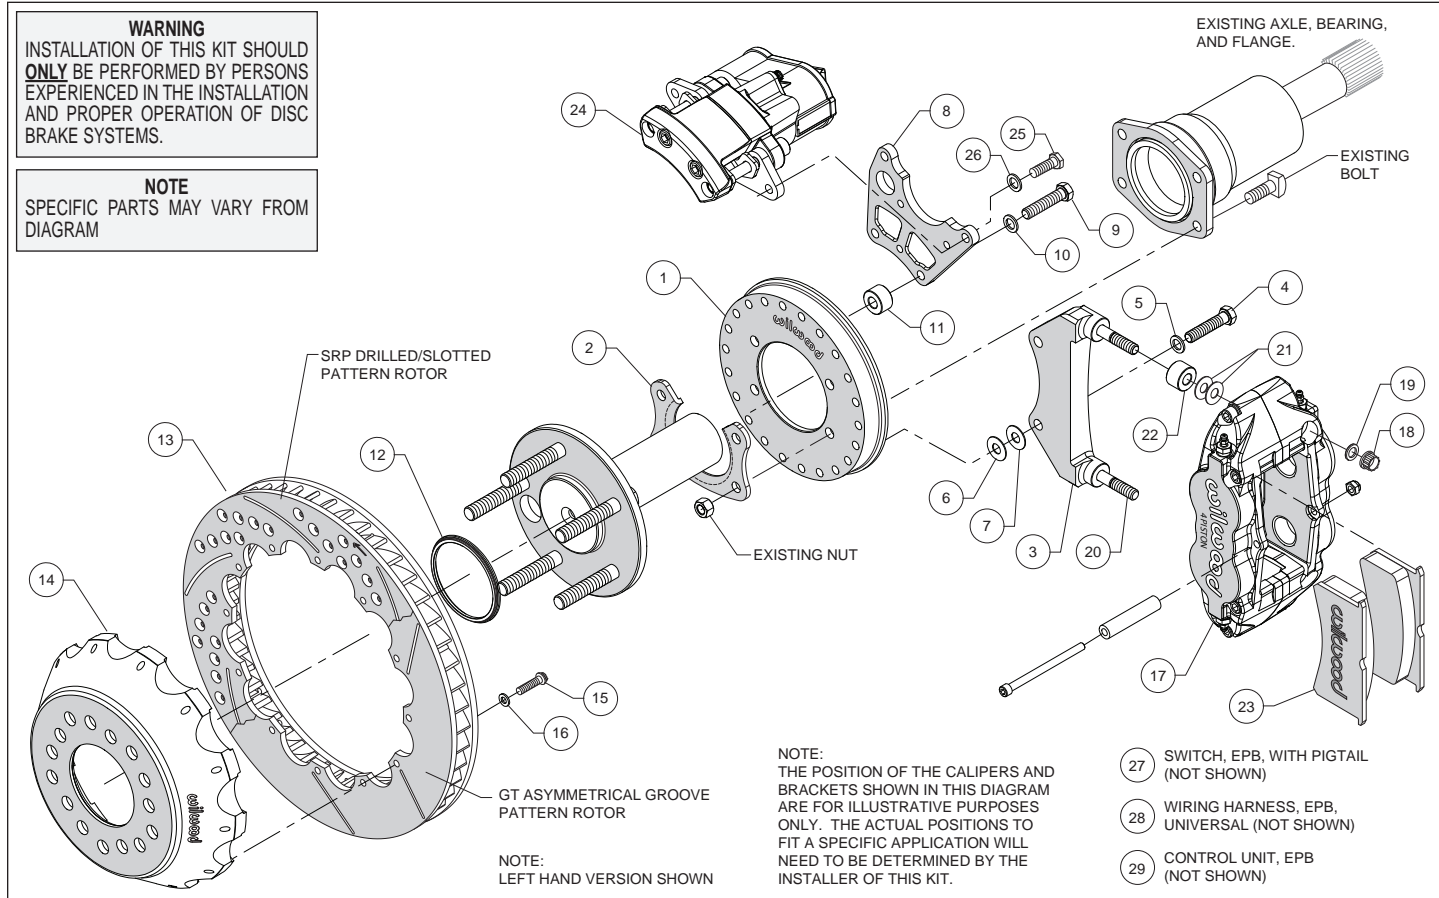
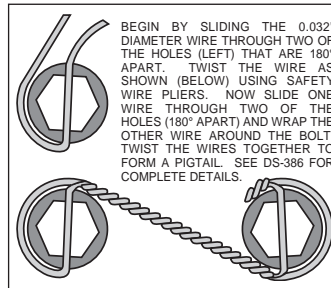

Figure 1. Typical Installation Configuration
Figure 5. Safety Wire Diagram
(numbers in parenthesis refer to the parts list, and Figure 1 on the preceding pages):
- Orient the backing plate (1) as shown in Figure 1 and Photo 1, and slide it onto the axle housing flange. Ensure the backing plate fits flush against the axle housing flange. Reinstall the axle into the axle housing.
- Install the bearing retainer (2) with the opening pointing upward and the lip facing inward (toward the bearing), as shown in Figures 1 and 4, and Photo 2. Secure retainer and backing plate to the axle housing flange using the Original Equipment Manufacturer (OEM) bolts and nuts, Figure 1 and Photo 3. Apply red *Loctite*® 271 to the OEM bolt threads and torque to OEM specifications.
- Start by determining the best location for the service caliper (17). This caliper is usually mounted in the 3:00 or 9:00 o'clock position, but may be rotated up or down approximately 45 degrees and still allow for proper bleeding, Photo 4. Orient the service caliper bracket (3) as shown in Figure 1 and Photo 5, and install to the backing plate (1) in the desired location using bolts (4) and washers (5). Temporarily tighten bolts. Next, mount the service caliper onto the bracket. Lubricate the caliper mounting studs (20) with lightweight oil. Mount the service caliper using lock nuts (18) and washers (19), Figure 1. Temporarily tighten the lock nuts. Check that the caliper (including inlet fitting and hose) has sufficient clearance to all surrounding components through the full suspension travel. Relocate the caliper/bracket on the backing plate as needed to ensure proper clearance is achieved.
- Determine the best location for the EPB caliper (24). **NOTE:** *The EPB caliper motor extends farther inboard than the service caliper and therefore needs additional consideration when determining a mounting location with sufficient clearance.* In the example application shown in Photo 6, the EPB caliper has sufficient inboard clearance to the leaf spring. However, if the EPB caliper were mounted closer to the 12:00 o'clock position, the inner body of the vehicle would hit the caliper during full compression of the suspension.
•Orient the EPB caliper bracket (8) as shown in Figure 1 and Photo 7, and install to the backing plate (1) in the desired location using bolts (9), washers (10), and spacers (11). Temporarily tighten bolts. **NOTE:** The EPB bracket is reversible. In one direction the bracket will position the EPB caliper closer to the service caliper, and vice versa if reversing the bracket. Next, mount the EPB caliper (24) to the bracket using bolts (25) and washers (26). Temporarily tighten bolts. **NOTE:** EPB calipers are Left and Right handed, however they can be used on either side of the vehicle to best suit your specific application. Check that the EPB caliper (including wiring harness connector) has sufficient clearance to all surrounding components through the full suspension travel. Relocate the EPB caliper/bracket on the backing plate as needed to ensure proper clearance is achieved.
•Once the caliper positions have been determined, remove both the service (17) and EPB (24) calipers, leaving both brackets in place on the backing plate. For the EPB bracket, remove the bolts one at a time, apply red Loctite® 271 to the threads, and torque to 35 ft-lb. The service caliper bracket will be final installed after shimming is determined.
•Orient the rotor (13) and the hat (14) as shown in Figure 1 and Photo 8. Attach rotor to hat using bolts (15) and washers (16). Using an alternating sequence, apply red Loctite® 271 to the threads, and torque to 155 in-lbs. For an added measure of security, the bolts may be safety wired using standard 0.032 inch diameter stainless steel safety wire as shown in Figure 5. Please refer to Wilwood's data sheet DS-386 (available at www.wilwood.com/Pdf/DataSheets/ds386.pdf) for complete safety wire installation instructions.
•Initially place two .035" thick shims (21) and one spacer (22) on each stud of the service caliper bracket (3) as shown in Figure 1 and Photo 10. Mount the caliper onto the bracket using lock nuts (18) and washers (19), Figure 1. Temporarily tighten the lock nuts and view the rotor through the top opening of the caliper. The rotor should be centered in the caliper, Photo 11. If not, adjust by adding or subtracting shims (6 and/or 7) between the service caliper bracket (3) and the backing plate (1). Always use the same amount of shims on each of the two mounting bolts. Once the caliper alignment is correct, remove the bracket mounting bolts (4) one at a time, apply red Loctite® 271 to the threads, and torque bolts to 35 ft-lb.
- Mount the EPB caliper (24) onto the caliper mounting bracket (8) using bolts (25) and washers (26), Figure 1. Apply red *Loctite*® 271 to bolt threads, and torque to 30 ft-lb.
• **NOTE:** The service caliper (17) in this brake kit utilizes a 1/8-27 NPT pipe thread inlet. OEM rubber brake hoses generally cannot be adapted to Wilwood calipers. The preferred method is to use steel adapter fittings at the caliper, either straight, 45 or 90 degree and enough steel braided line to allow for full suspension travel. **Carefully route hoses to prevent contact with moving suspension, brake or wheel components.** **NOTE:** Wilwood hose kits are designed for use in many different vehicle applications and it is the installer's responsibility to properly route and ensure adequate clearance and retention for brake hose components. Wilwood offers universal brake flex line hose kits, domestic (3/8-24 IF) chassis fittings, order: